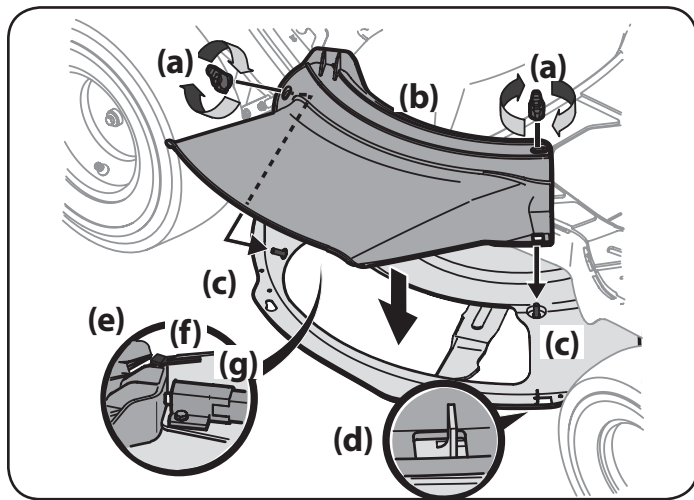

Figure 8
- Remove the wing knobs (a) installed on the mowing deck and retain for later installation. See Figure 8.
- Install the deck chute (b) into the deck discharge opening on the deck. The rear of the chute should be under the tab (f) on the rear deck bracket (g). The studs (c) on the deck surface will fit through the holes on the upper portion of the deck chute. The small tab (d) on the deck lip area will fit through the square cutout on the lower portion of the deck chute. See Figure 8.
- Secure the deck chute (b) by tightening the wing knobs (a) removed in step 1. See Figure 8.